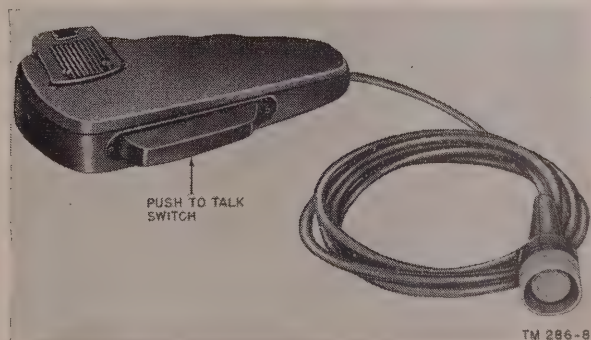

Figure 15. Microphone M-29/U.
f. MICROPHONE M-29/U. Microphone M-29/U (fig. 15) consists of a 100-ohm carbon-microphone element in a plastic case with a push-to-talk switch and connecting cord attached. The push-to-talk switch incorporates two electrically independent SPST switches. The connecting cord is 5 feet long and terminates in a 10-pin audio connector which will mate with the receptacles on the receiver-